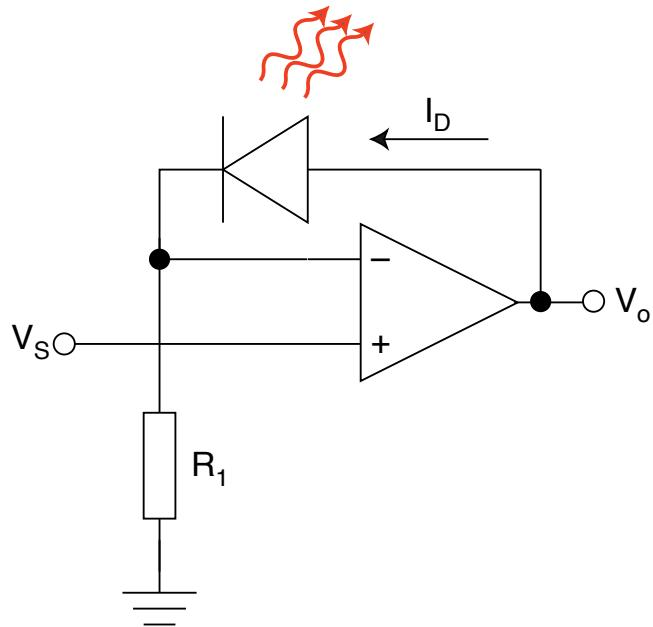

Figure 4.3.1
In a voltage-to-current converter, such as that shown in Figure 4.3.1, we set $R_1 = 470\Omega$. What voltage needs to be applied to the input to generate a current of 1 mA?
- Set up a SPICE simulation of the voltage-to-current converter circuit shown in Figure 4.3.1. Use the same op amp as in the previous simulation (Section 4.2.1).